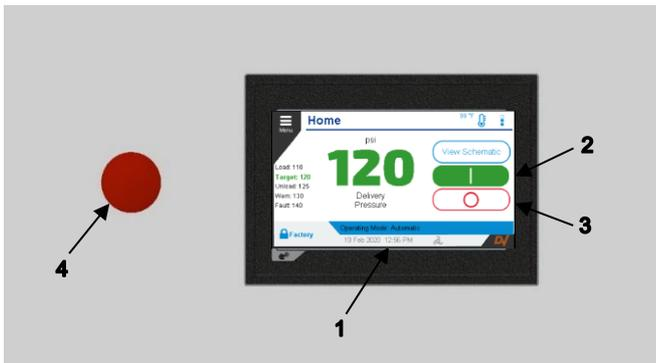

Fig. 16
For switching the compressor off “normally”, use only the stop push-button (-3- Fig. 16), but not the EMERGENCY STOP push-button. After having been switched off, the compressor is after-cooled for 30-50 seconds (soft stop).
- Press START button [I] (-2- Fig. 16).
To switch off the compressor use the [O] key (-3- Fig. 16) and not the EMERGENCY STOP button. After shutdown the compressor has a run on time of 30-50 seconds (soft-stop).
The EMERGENCY STOP button is situated next to the compressor controller. It is used to immediately shut down the unit. Only use the EMERGENCY STOP button (-4- Fig.16) to shut down the unit in emergencies. When shutting down normally, always use the [O] (STOP) key.